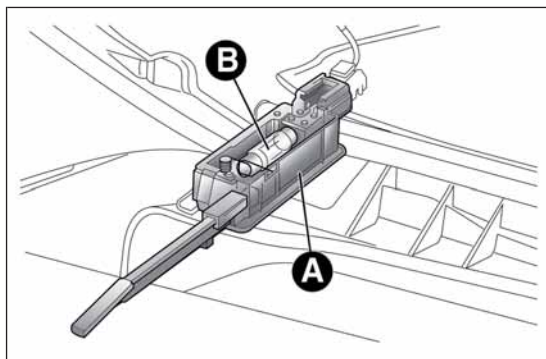

fig. 145
- open the glove compartment and extract the light A fig. 145;